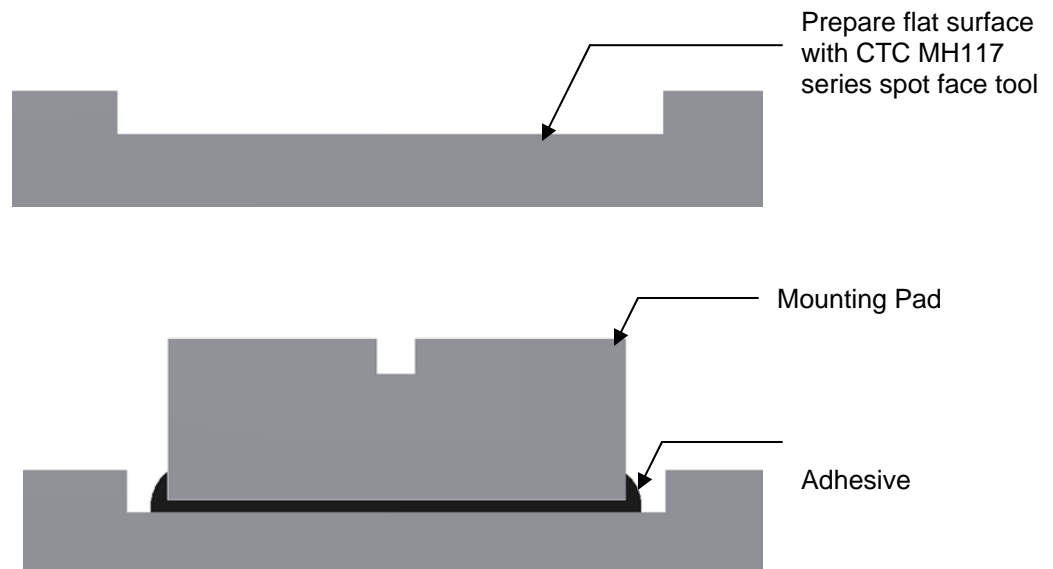

Figure 1. Mounting Surface
3. Place a small portion of adhesive on the underside of the mounting base. Flat Surface Adhesive Mounting (*Figure 1*)